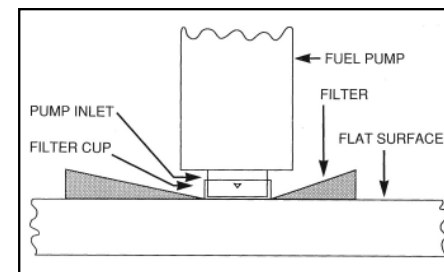

Fig. 4
- D) Install the new filter on the pump in the same orientation as the original filter. Place the filter on a clean flat surface and firmly press the pump down into the filter until it snaps into place and is fully seated on the pump (See Fig. 4).